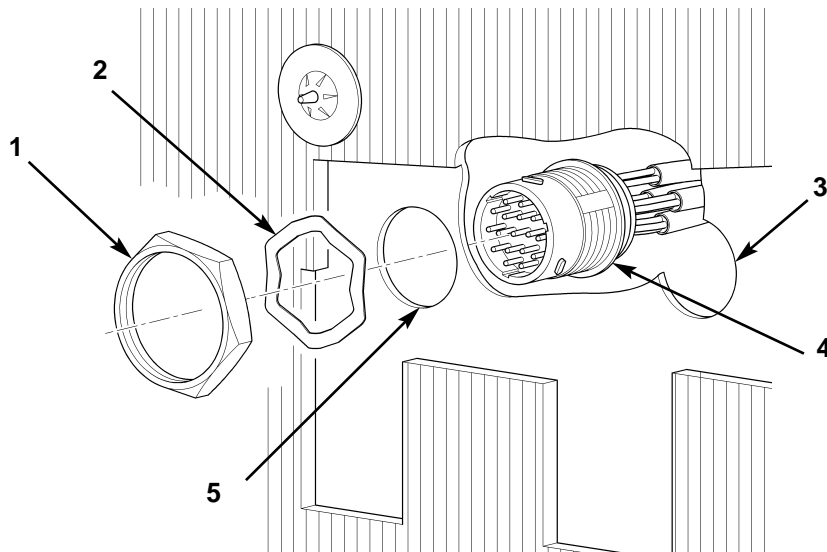

Figure 13. Installing ABS ECU Harness Bulkhead Connectors.
12. Install modulator harness bulkhead connector (figure 13, item 4) on hole (figure 13, item 5) closest to steering column with washer (figure 13, item 2) and nut (figure 13, item 1).
13. Repeat step 12 for installation of speed sensor harness bulkhead connector on hole (figure 13, item 3).